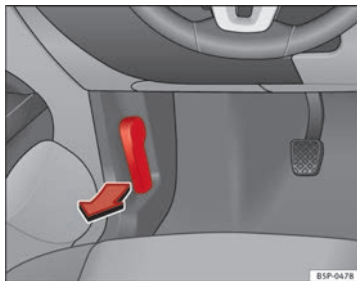

Fig. 164 Detail of footwell area on driver side: lever for unlocking the bonnet
- To release the bonnet, pull the lever under the dash panel ⇒ Fig. 164 in the direction indicated (arrow). The bonnet will be released by a spring action ⇒ ⚠.